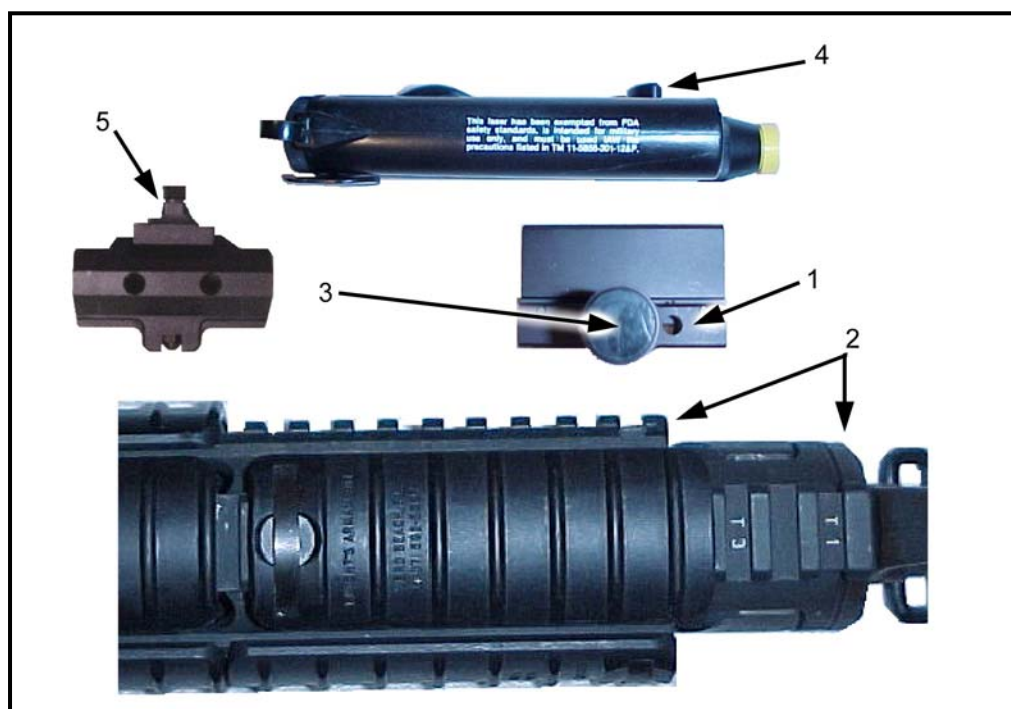

Figure 2-29. Mounting the AN/PAQ-4B/C on the MWS top or left.
b. **M16A4/M4 MWS Weapons** (Figure 2-29). The Picatinny rail grabber (1) or the insight rail grabber (5) is used to mount the AN/PAQ-4B/C to the RAS. Mount the rail grabber all the way forward on the top or either side of the RAS (2) ensuring it does not extend beyond the end of the RAS. (The AN/PAQ-4B/C will not retain zero if the rail grabber extends beyond the end of the integrated rail when mounted.) Tighten the torque-limiting knob (3) until it clicks twice. Align the thumbscrew (4) on the AN/PAQ-4B/C with the thumbscrew hole in the rail grabber nearest the muzzle. The mounting procedures are identical for the M16A4 and M4-series MWS. The remote switch should be attached to the